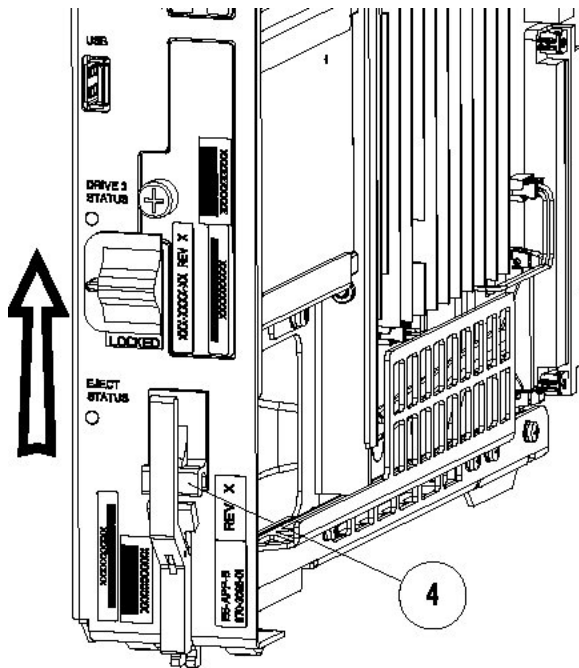

Figure 14: E5-APP-B Card Eject Hardware Switch, UNLOCKED
1. On the E5-APP-B card, slide the Ejector switch (4) up to the UNLOCKED position (see Figure 14: E5-APP-B Card Eject Hardware Switch, UNLOCKED).